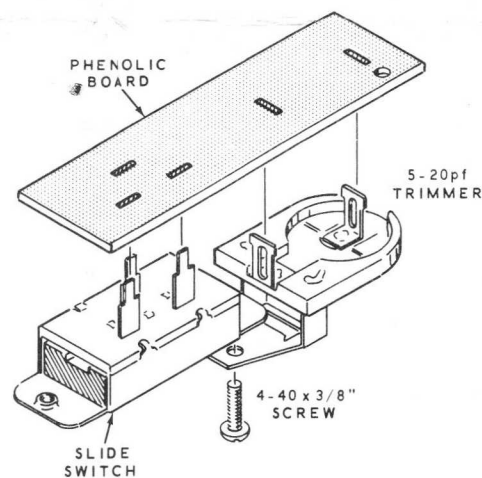

Figure 1
- () Fasten the slide switch (#60-7) and the ceramic trimmer (#31-6) together with a 4-40 x 3/8" screw as shown in Figure 1. Be sure to position the switch as shown.
- () Place the phenolic board over the capacitor and switch lugs as shown in Figure 1. Bend the lugs slightly outward to hold the switch in place on the board.